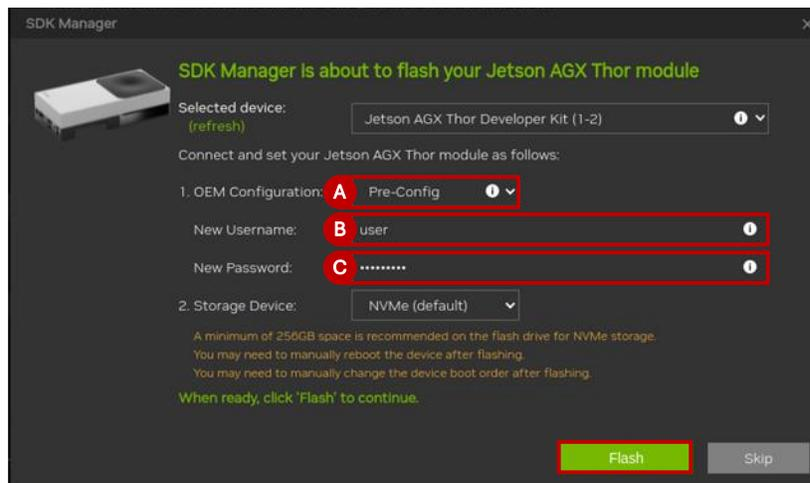

Figure 6.22. Pre-flash Operation Setup
12. In the setup configuration screen, select **Pre-Config** under the **OEM Configuration** (letter A) as shown in Figure 6.22. Enter the desired **username** (letter B) and **password** (letter C) to create the new user account for AGX Thor. Leave the **Storage Device** setting as the default. Click **Flash** to begin the flashing process.